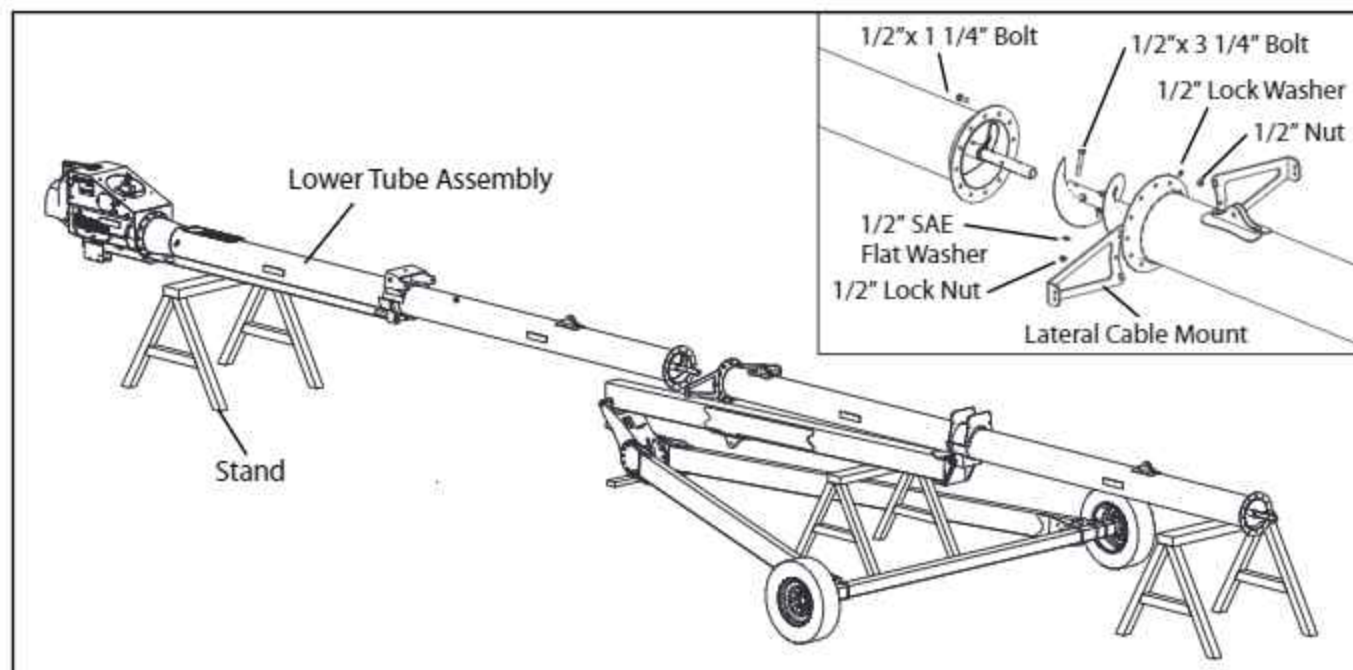

FIG. 3-4. Installing the Lower Tube
6. Place a stand where shown in Fig. 3-4. Bring in the Lower Tube Assembly. Slide the flight out of the Suspension Tube and connect it to the Lower Tube Flight using three 1/2" x 3 1/4" bolts, SAE flat washers and lock nuts. Make sure the ends of the flights make one continuous flighting. If necessary, use a hammer to pound on the flight until the ends are tight together. Grind the flight joint to make a smooth outer edge.